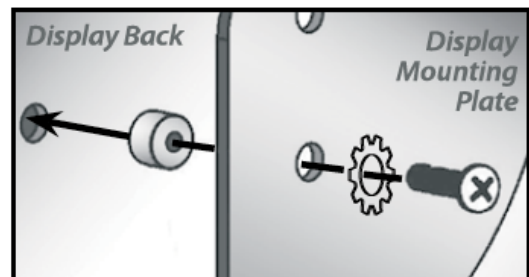

Fig. 8
- B. Have your assistant hold the display parallel to the face of the Display Mounting Plate. Make sure both Fasteners are notched securely within the holes. You can use the Cable Management Loop on the Arm Assembly of the Mount to keep your Display cable(s) out of the way for this next step. Place a Spacer between the Plate and the back of your display over one of the lower display holes. Take your Bolt and Lock Washer and thread it through the lower Plate hole, Spacer and into the hole in the back of your display (Fig. 8). Repeat for the other side.